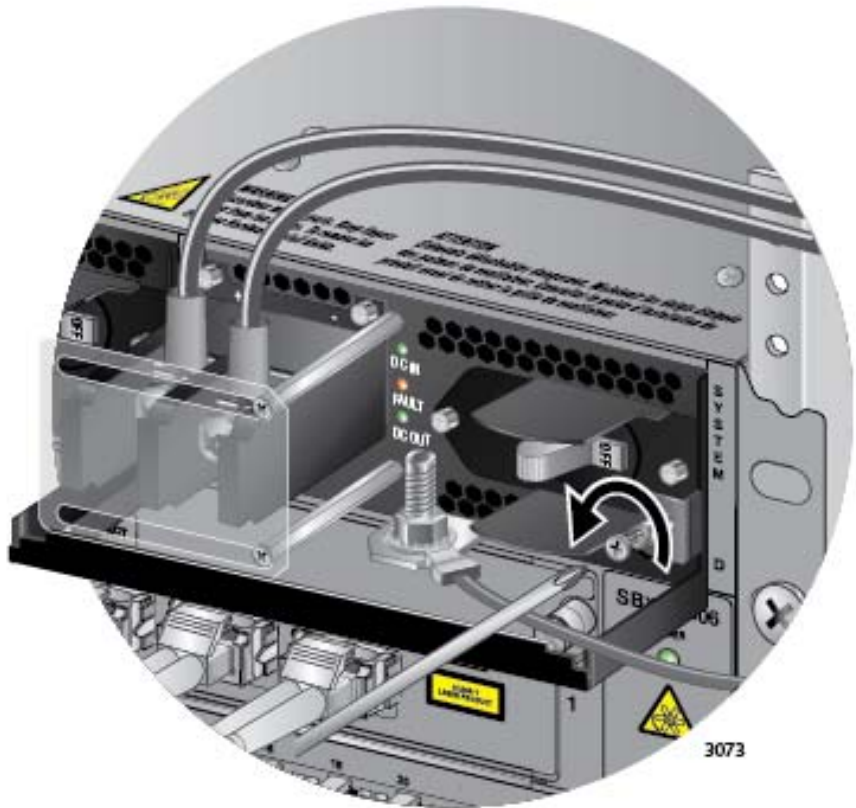

Figure 171. Loosening the Screw on the Locking Handle
3. Use a #2 screwdriver to loosen the screw on the locking handle. Refer to Figure 171 on page 287.